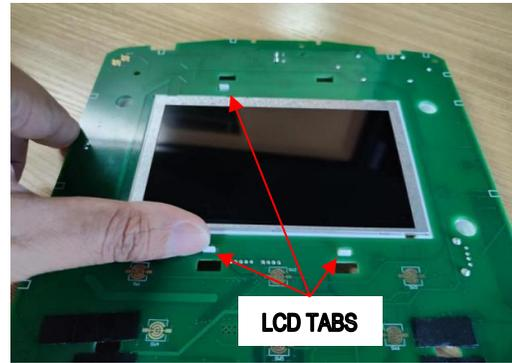

Figure 7.19
6. Release the LCD tabs, See Figure 7.19